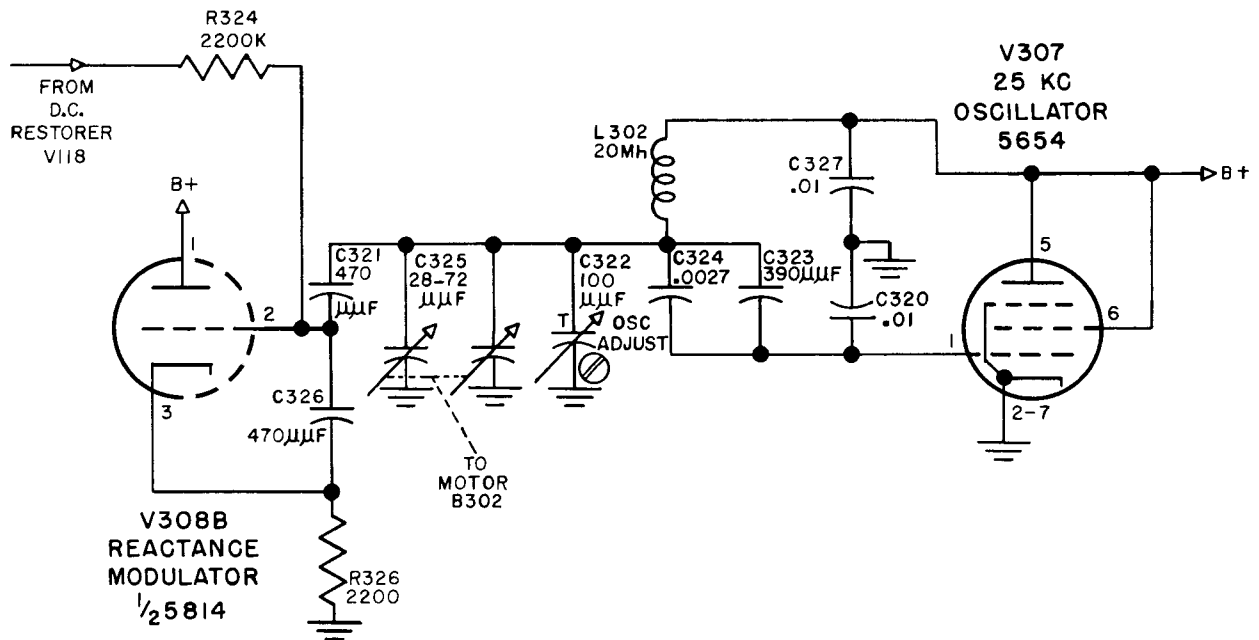

Figure 2-16. Reactance Modulator V308B and Oscillator V307, Simplified Schematic Diagram
(3) DC RESTORER V118.—The output of phase comparator V117 is applied to DC restorer V118. The purpose and operation of DC restorer V118 is exactly the same as described for DC restorer V123. See paragraph 2h(4). Also, diode balance control R198 is adjusted in the same manner as R225. See paragraph 2h(4).
(4) REACTANCE MODULATOR V308B. (See Figures 2-16 and 7-8.)—The audio output of DC restorer V118 is applied to the grid of reactance modulator V308B, one section of a 5814 dual triode. The function of the reactance modulator V308B is to keep the local oscillator signal at the same frequency as the carrier IF signal. If the frequency of the carrier should change or if the local oscillator frequency should drift from the carrier frequency, the reactance modulator corrects the oscillator frequency so that it again coincides with the carrier.
(5) THE 25-KC. OSCILLATOR V307. (See Figure 2-16.)—Oscillator V307, a 5654 pentode, is connected in a highly stable series-tuned circuit. The oscillator frequency is essentially that of the resonant frequency of coil L302 and capacitors C324, C327 and C320. The voltage drop across C320 and C327 establish the feedback and phase reversal necessary for oscillator operation.